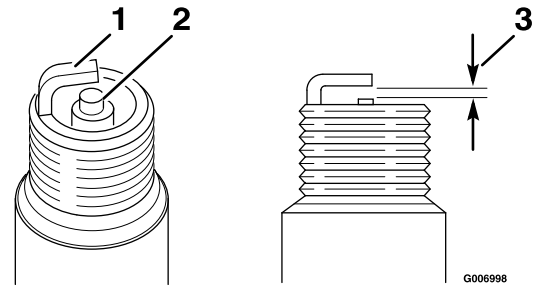

Figure 21
5. Set the gap on the plug to 0.6 to 0.7 mm (0.024 to 0.028 inch); refer to Figure 21.